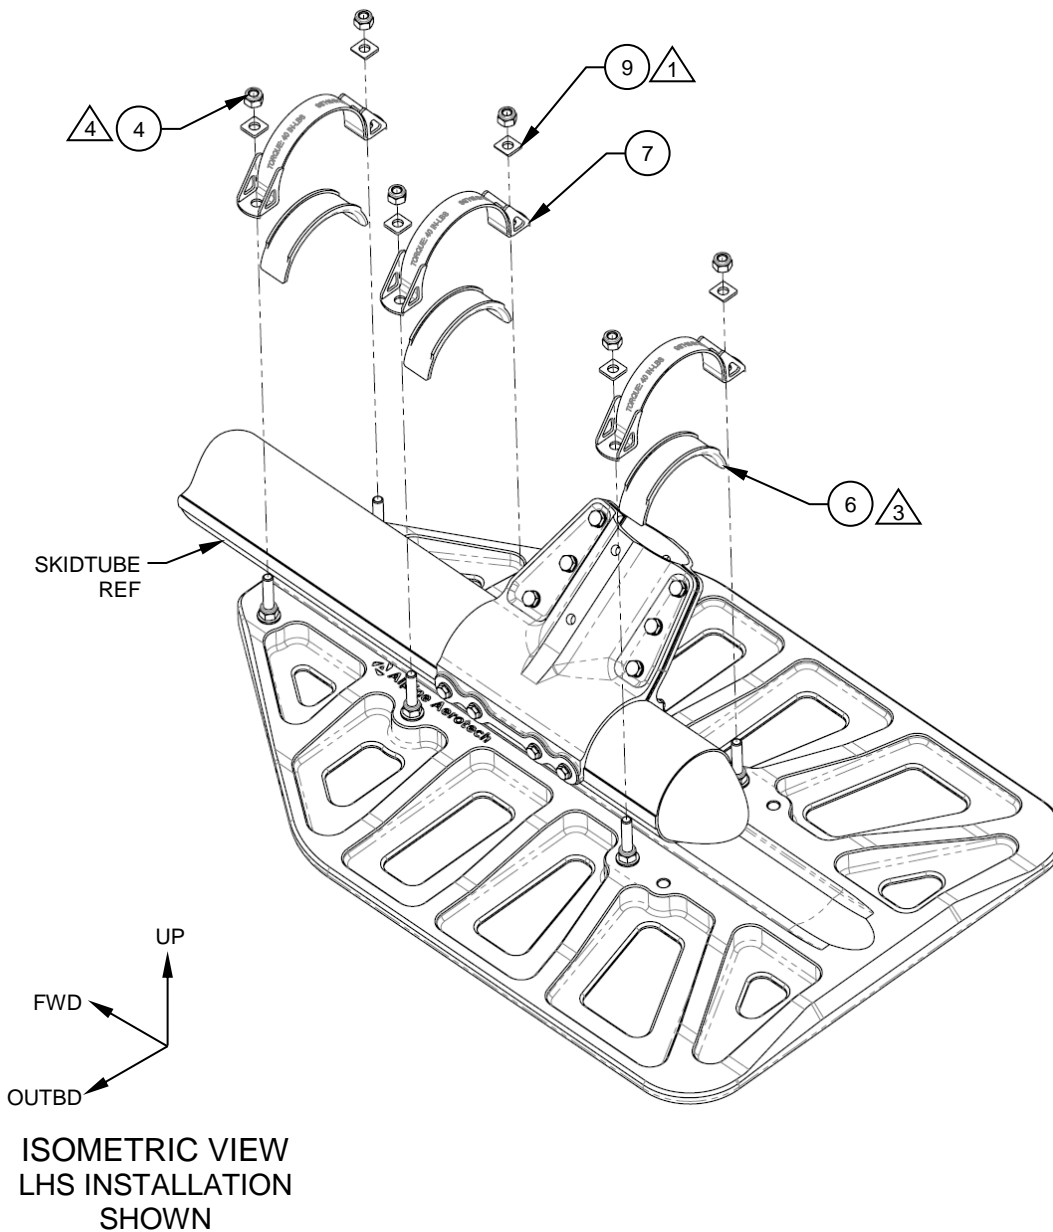

Figure 6
2. Attach Cap, Details (Item 6) to Strap, Assys (Item 7) center the cap to the strap. Reference Figures 6 & 7.
4. Once the Bear Paw, Detail (Item 1) is under the skid tube in its approximate location, place the Strap, Assy's (Item 7) Cap, Details (Item 6) and associated hardware (Items 4 & 9) on their corresponding studs and capture the stud with its respective self-locking nut (Item 4) and washer (Item 9). Reference Figures 6 & 7.
5. Lower the aircraft onto the Bear Paw, Detail (Item 1) and torque fasteners equally to 40 in-lbs. (plus tare torque). Ensure that the relieved edge of the Washer, Radius (Item 9) is oriented towards the skid tube. Reference Figures 6 & 7.